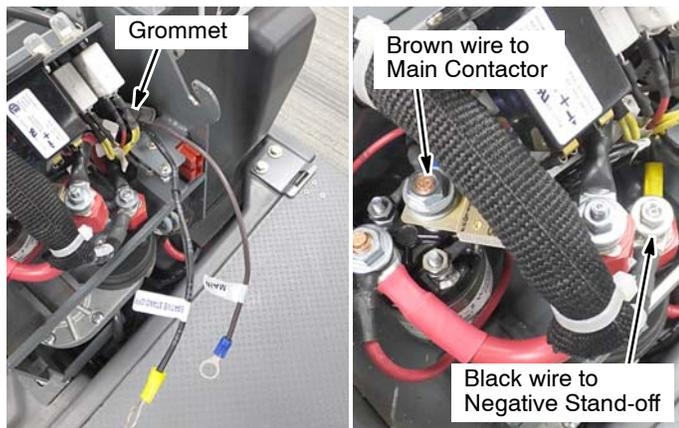

Fig. 12
9. Route the two wires up through control panel grommet. Connect brown wire to main contactor and black wire to negative stand-off terminal (Figure 12).